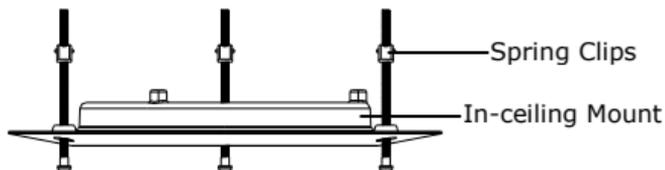

Figure 2-10 The In-ceiling Mount
4. Rotate the spring clips counterclockwise to the screws as shown in Figure 2-10.